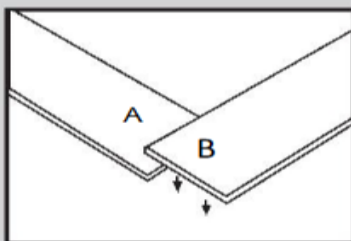

Fig 4a.
- Take one "A" plank and one "B" plank and place as shown below. Angle the B plank at 45° and slide the joint together and lay flat (Figs 4a & 4b.).